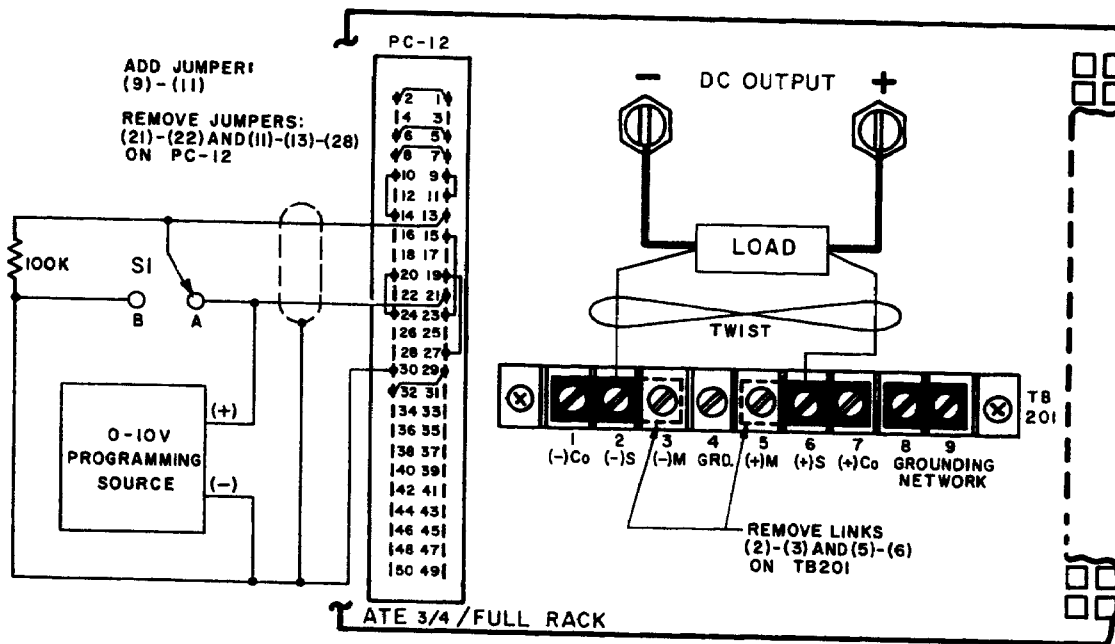

FIG. 3-15 CONNECTIONS FOR SIMULTANEOUSLY PROGRAMMING THE ATE OUTPUT VOLTAGE AND THE CROWBAR LEVEL (AUTOMATIC TRACKING).
- 1) Connect jumpers on the REAR PROGRAMMING CONNECTOR as indicated in FIG. 3-15 and connect switch (S1) as shown. Turn front panel CROWBAR LEVEL control fully counterclockwise.
- 2) Connect a substitute LOAD and the EXT. PROGRAMMING SOURCE as shown in FIG. 3-15.
- 4) Remove S1, and connect a jumper between (13)-(21) of PC-12. Connect the actual LOAD, reactivate the ATE circuit breaker and commence operation. Should erratic triggering occur in actual operation, set front panel CROWBAR LEVEL control slightly clockwise. This will increase the "threshold" voltage; that is, the difference voltage between the crowbar level and the operating voltage.
- ⁽¹⁾ For operation with the ATE in "FAST" mode, all connections shown in FIG. 3-15 are valid, for both "SLOW" and "FAST" operating modes, except as follows:
- 2) Do **not** add jumper (9)-(11) on PC-12.
- 3) Remove only jumpers (21)-(22) and (11)-(13), **not** jumper (13)-(28) on PC-12.
- 4) In paragraph 3-77, Step 4, connect jumper between pins (11) and (21), **not** between (13) and (21).